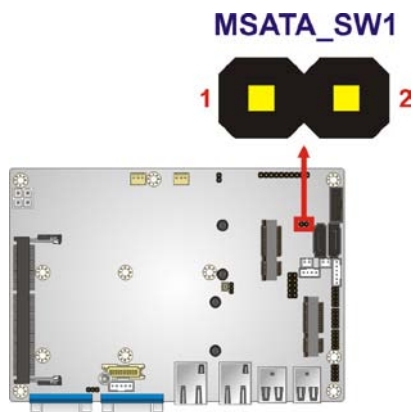

Figure 4-24: mSATA/PCIe Mini Mode Selection Jumper Location
- Jumper Location: See **Figure 4-24**